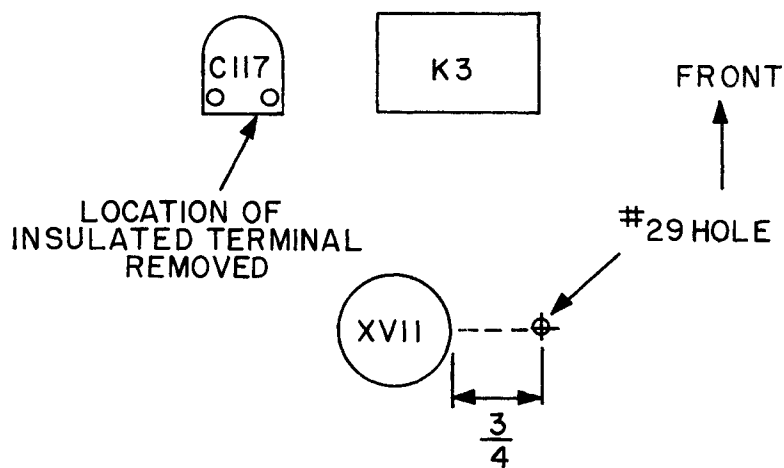

Figure 2. Location of Number 29 Hole for Installation of Insulated Terminal
capacitor, C117, (insulated terminal on K3 side of capacitor) and remove insulated terminal from capacitor. See figure 2.
15. Drill new hole as indicated in figure 2. Care should be taken not to damage wiring and other components when drilling this hole.